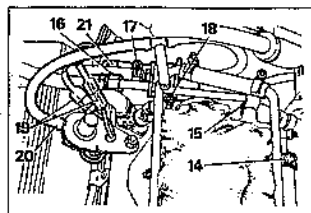

Fig. 13.3 Inlet manifold component attachments - fuel injection models (Sec 4)
- 29 Slacken the clip and disconnect the fuel pressure regulator flexible hose at the rigid fuel supply pipe (Fig. 13.3).